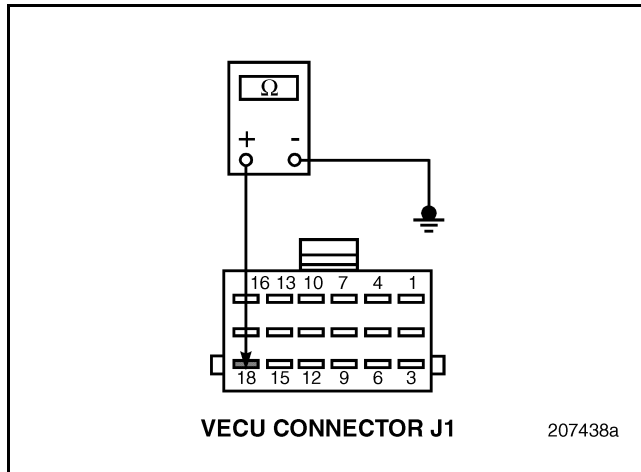

Figure 607
3. Check for continuity between VECU connector J1 pin 18 and a good ground (see Figure 607).